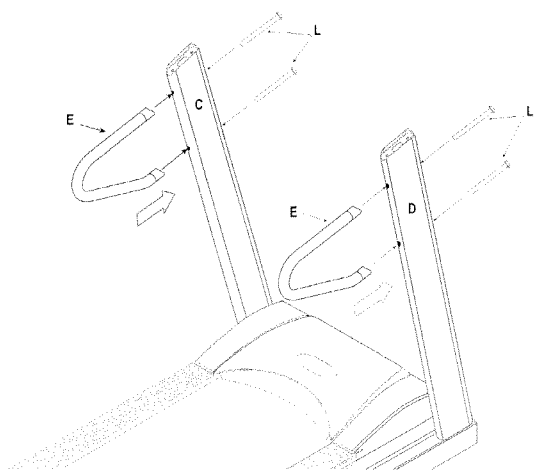

Figure 2
1. First, tighten the lower control wire by pulling the guide wire out of the right upright (D). Secure the uprights (C and D) using four (4) M8xP1.25x15 screws (K) for each side (See insert / enlargement Figure 1). Then, place the handrails (E) in place, using the four (4) M8xP1.25x135 screws (L) to secure the handrails (Figure 2).